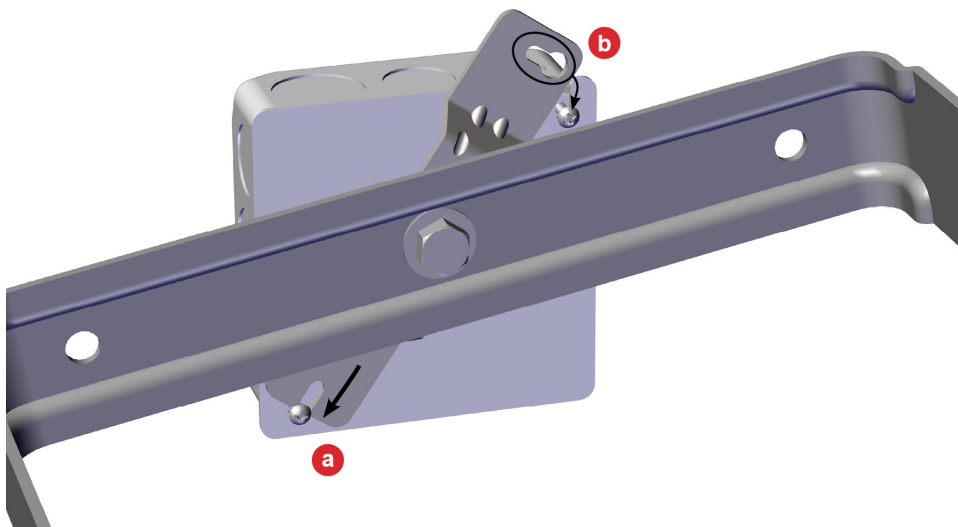

Figure 13. Securely attach bracket to box
4. Slide the bracket slot onto the lower screw (a) shown in Figure 13.
5. Rotate and capture the upper bracket keyhole on the top screw (b) in Figure 13.